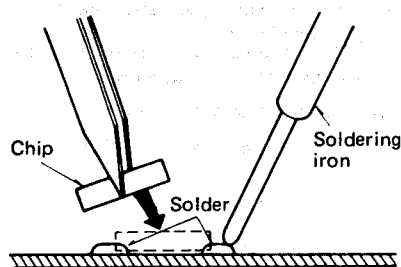

Fig. 2
3. Solder circuit board first and then solder chip in the direction of the arrow as shown in Fig. 2.